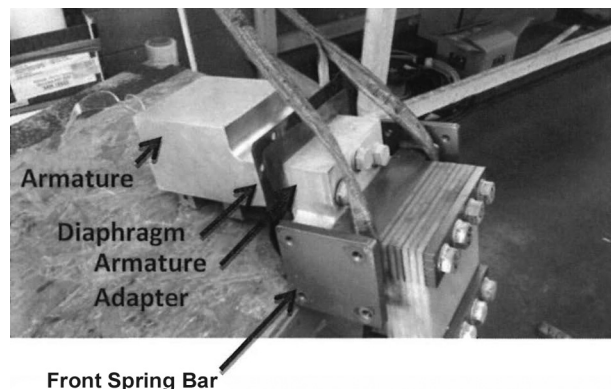

Figure 14: Armature Removal
4. Using an overhead crane lift the armature assembly & spring assembly up and out of the feeder body cavity (Figure 14).